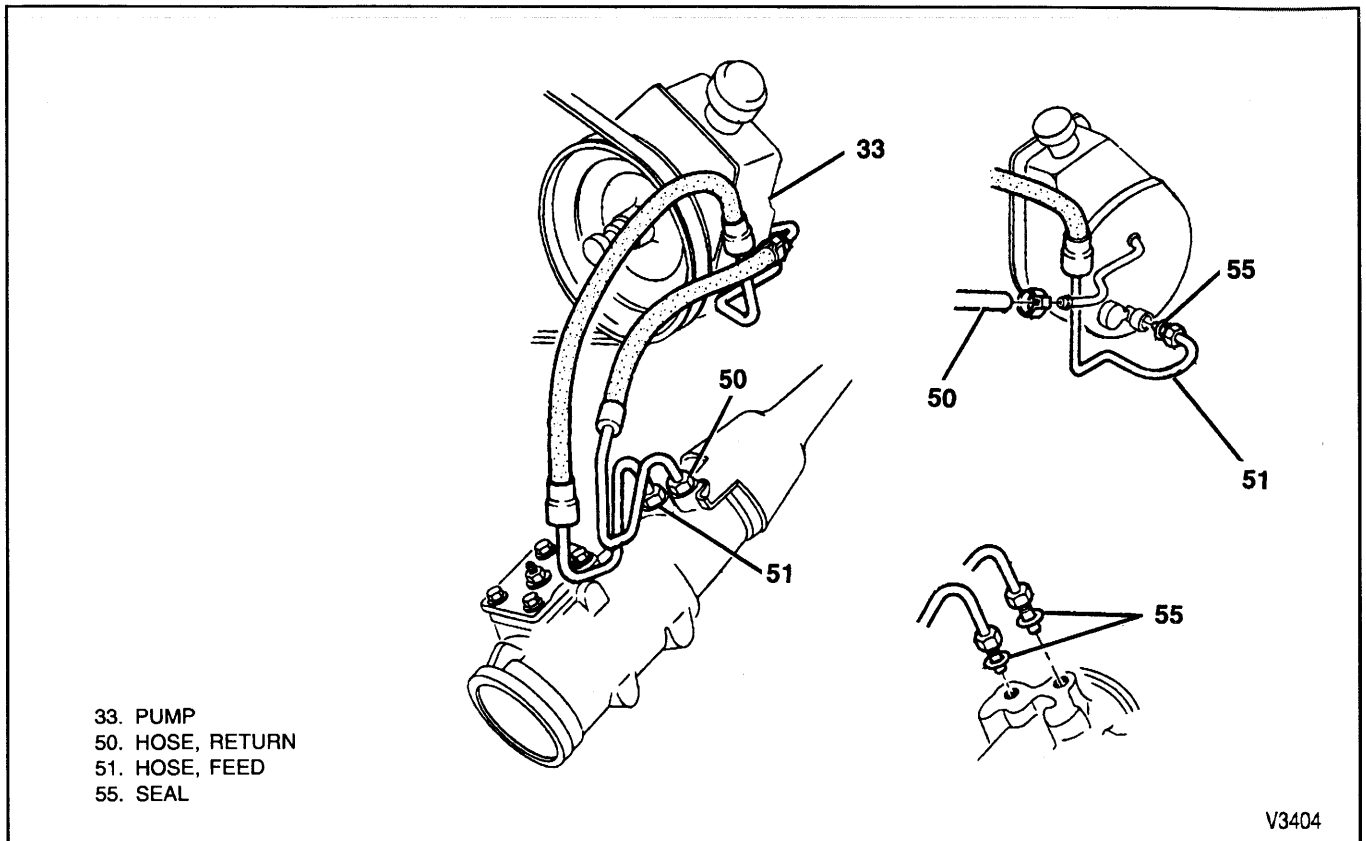

Figure 17—Hose Routing (C1,2 with 4.3L, 5.0L and 5.7L Engines—K1 with 5.7L Engine)
- Route hoses in the same position they were in before removal (figures 17 to 21).